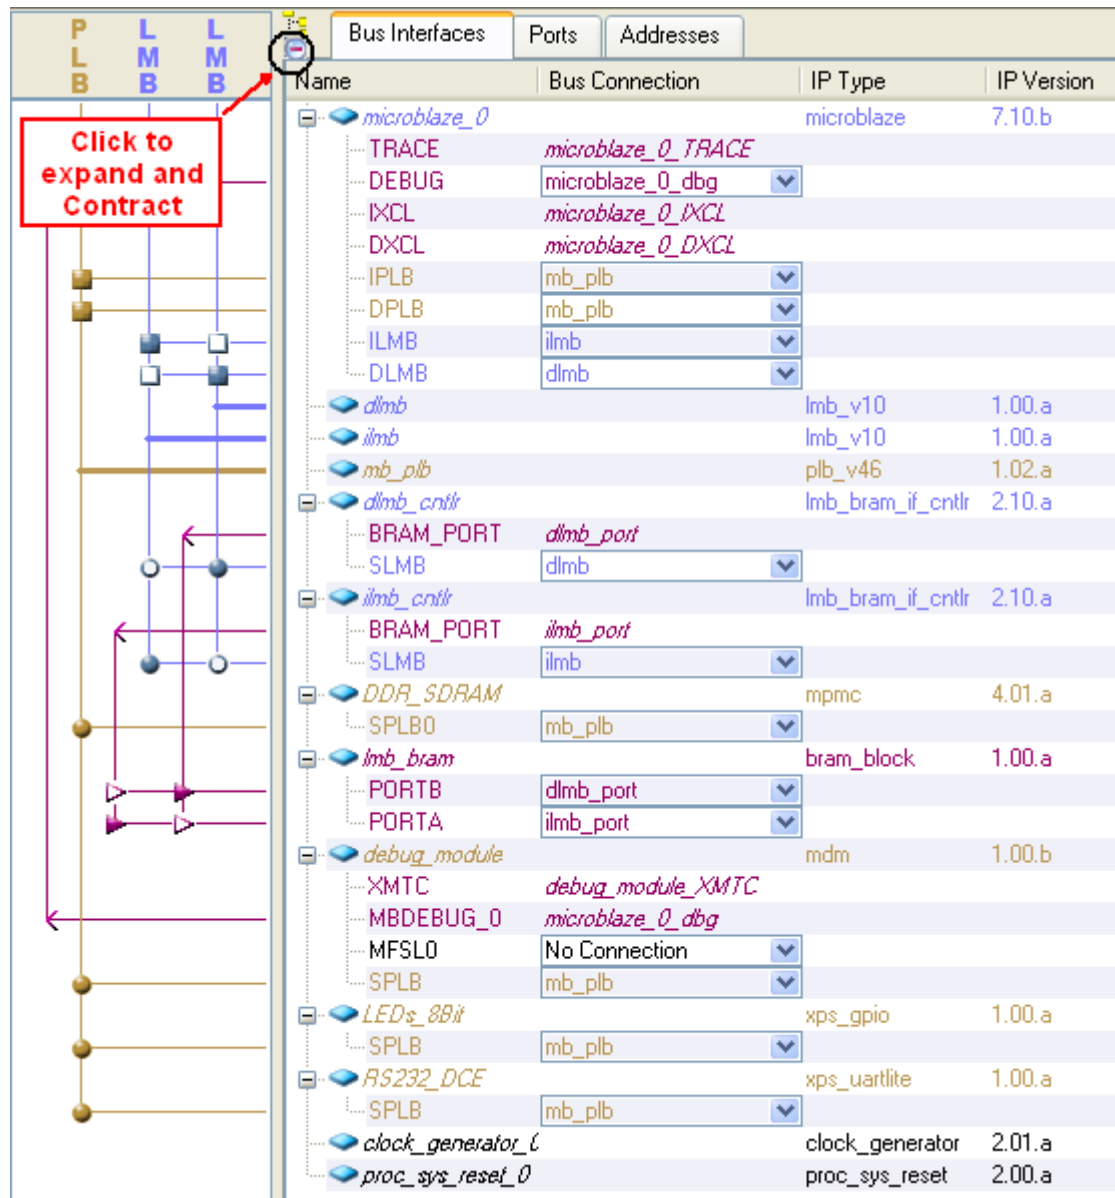

Figure 1-16. Detailed Bus Connections
- In the **System Assembly View** click on plus button and observe the expanded (detailed) bus connection view of the system (**Figure 1-16**)